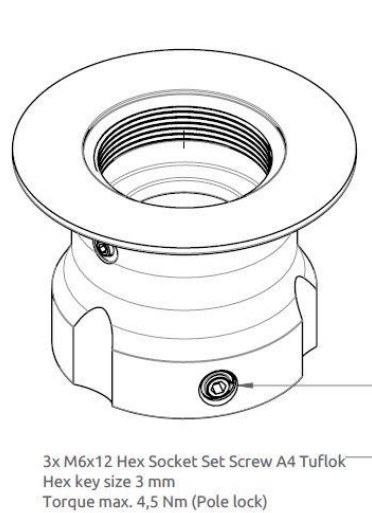

Figure 19: Pole Mount (1.5" pipe), Antenna Unit.
5. The LT-4130 Antenna Unit and pole mount can now be mounted on the 2.0" pipe. Fasten the three pole lock pinot screws, as illustrated in Figure 19 (max torque = 4.5 Nm)
The Pole Mount (1.5" pipe, 38.8mm), Antenna Unit only supports a 1.5" pipe. The pinot screws (antenna and pole lock) torques are specified in Figure 19 and Figure 20. The pole mount is made of milled aluminum (anodized). The pinot screws are made of A4 stainless steel.